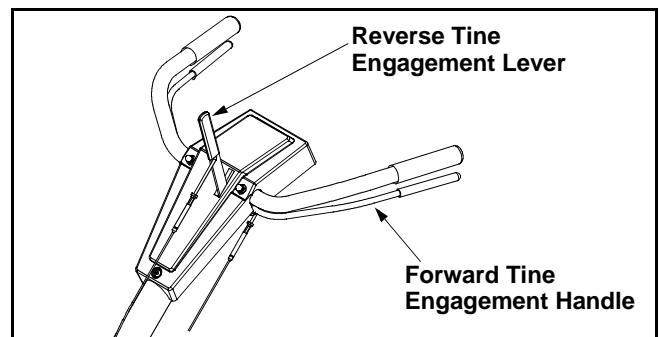

Figure 4
- Engage and release the forward tine engagement handle, then the reverse tine engagement lever. If an excessive noise is heard when releasing either the tine drive clutch handle or lever, the cable may be too loose. Adjust either the forward or reverse clutch cable by loosening the hex nut, threading the rod into the cable one or two turns, then retightening the nut. See Figure 4.